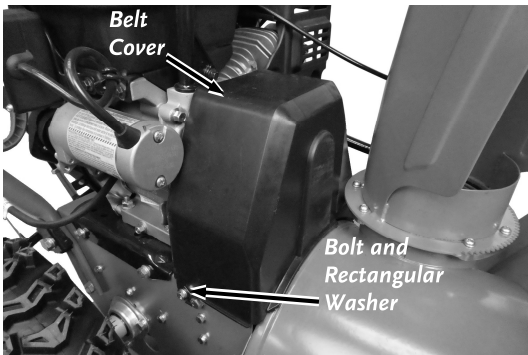

Figure 39
1. Remove the two Bolts and rectangular Washers from the Belt Cover using a 10mm Wrench and remove the Belt Cover (**Figure 39**).